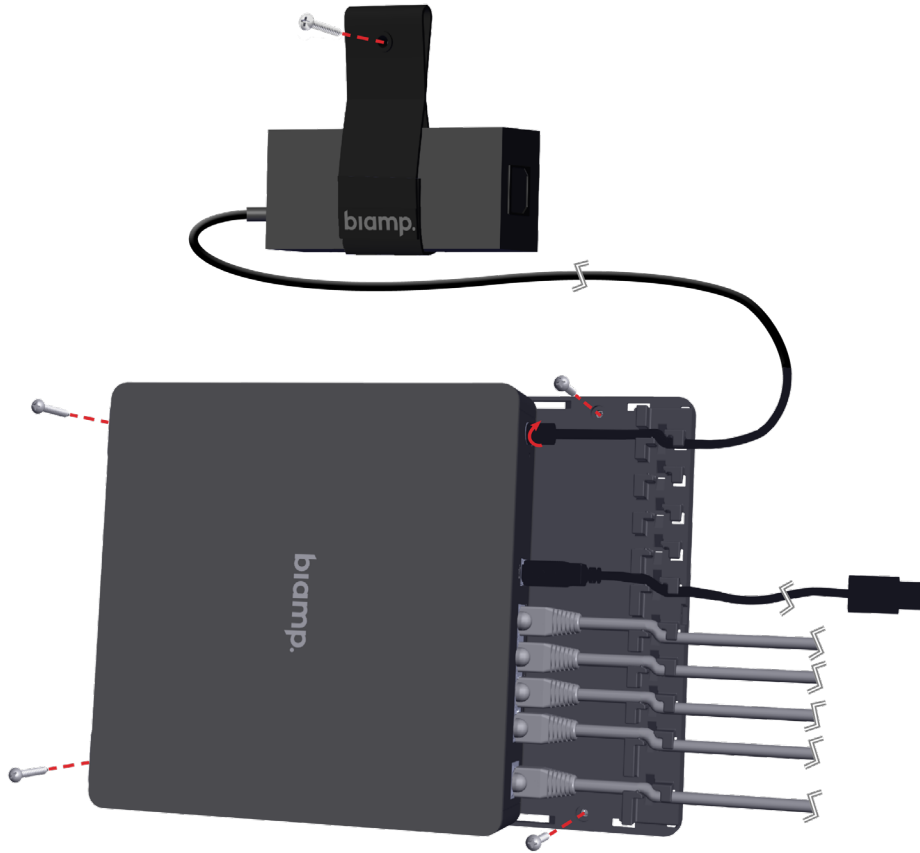

Figure 4. - Devio SCX with Cable Management Tray
3. Install SCX with attached bracket at the desired location. Shown in Figure 4.
4. Use the Cable Management Tray to secure the power supply and cables as required. Shown in Figure 4.
5. Use strap (included) to secure to a surface. Shown in Figure 4.